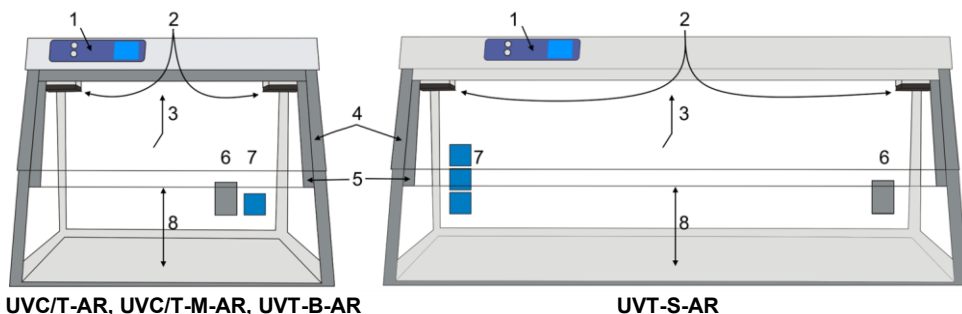

Figure 6. DNA/RNA UV box, frontal view:
5.4.1. Lift the front protective screen (fig. 6/5) up for work in the box. Models have different maximum opening heights (fig. 6/8), as listed in the **Specifications** section, and may be raised to the following positions:
Note. Do not block the recirculator openings (fig. 6/2)!
5.4.2. To use electric devices inside the box, pull their power cable through the inlet and close the flap (fig. 6/6) or connect the power cable to a built-in mains socket (fig. 6/7, models with mains socket).